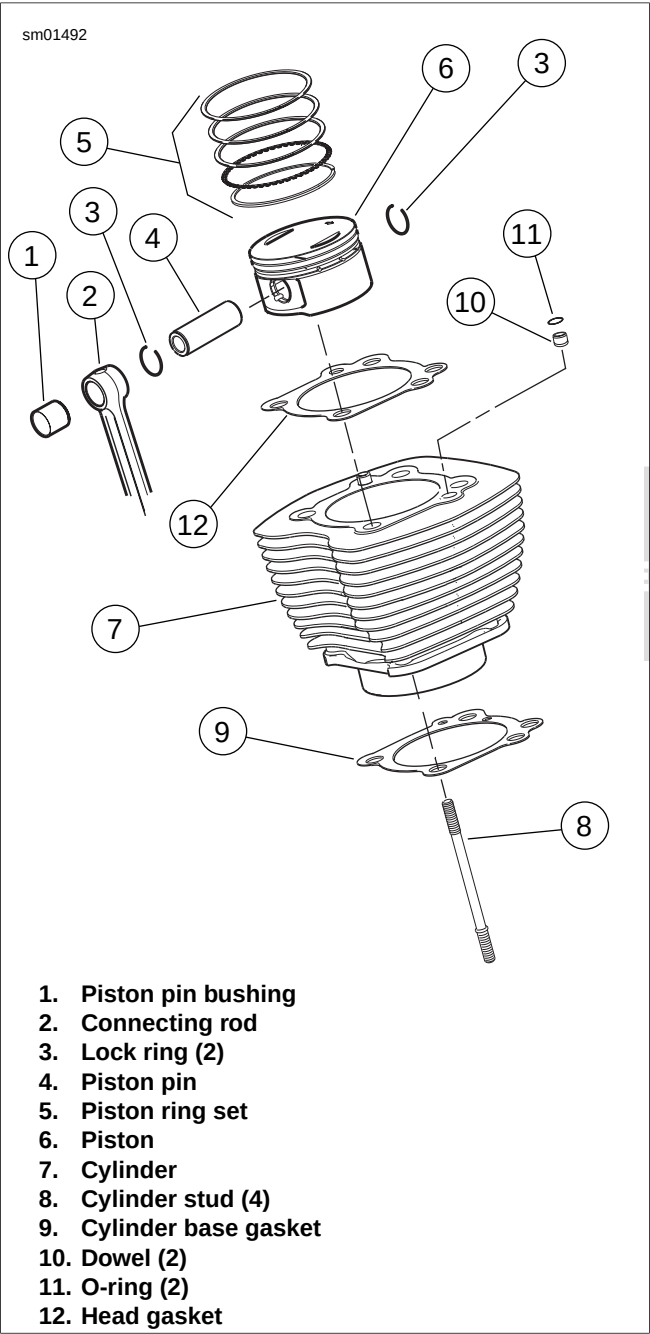

Figure 3-49. Cylinder and Piston
1. See Figure 3-49. Clean crankcase around base of cylinder (7) to prevent dirt and debris from entering crankcase while removing cylinder.